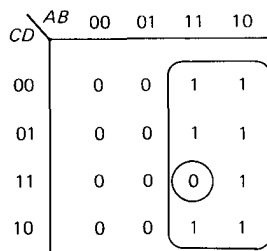

Figure 8.30
4. A block of 1's with only one or two 0's may be best described by the grouping illustrated in Figure 8.30, which corresponds to the logic expression